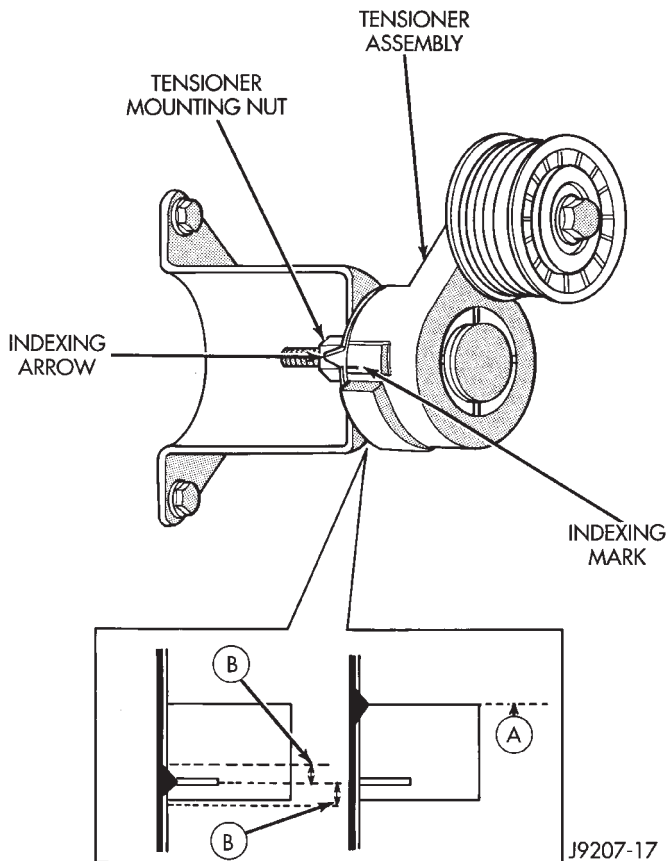

Fig. 94 Indexing Marks—3.9L V-6 or 5.2/5.9L V-8 LDC-Gas Engines
NOTE: On 3.9L V-6 or 5.2/5.9L V-8 LDC-gas engines, the tensioner is equipped with an indexing arrow (Fig. 94) on back of tensioner and an indexing mark on tensioner housing. If a new belt is being installed, arrow must be within approximately 3 mm (1/8 in.) of indexing mark (point B-) (Fig. 94). Belt is considered new if it has been used 15 minutes or less. If this specification cannot be met, check for:
On 3.9L V-6 or 5.2/5.9L V-8 LDC-gas engines, a used belt should be replaced if tensioner indexing arrow has moved to point-A (Fig. 94). Tensioner travel stops at point-A.
- (1) Remove accessory drive belt. Refer to Belt Removal/Installation in this group.
- (2) Disconnect wiring and secondary cable from ignition coil.
- (3) Remove ignition coil from coil mounting bracket (two bolts). Do not remove coil mounting bracket from cylinder head.
- (4) Remove tensioner assembly from mounting bracket (one nut) (Fig. 94).
- (5) Install drive belt. Refer to Belt Removal/Installation in this group.
- (6) Check belt indexing marks (Fig. 94).